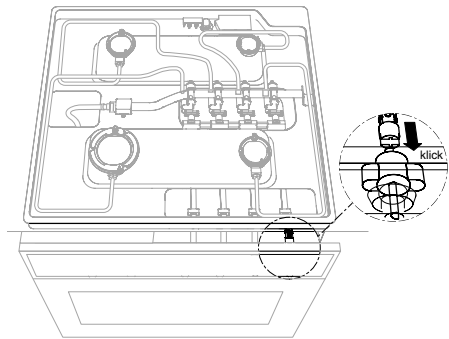

fig. 10
- Slide the cardan joints onto the oven's tap pins and snap them in place (see Figure 10).